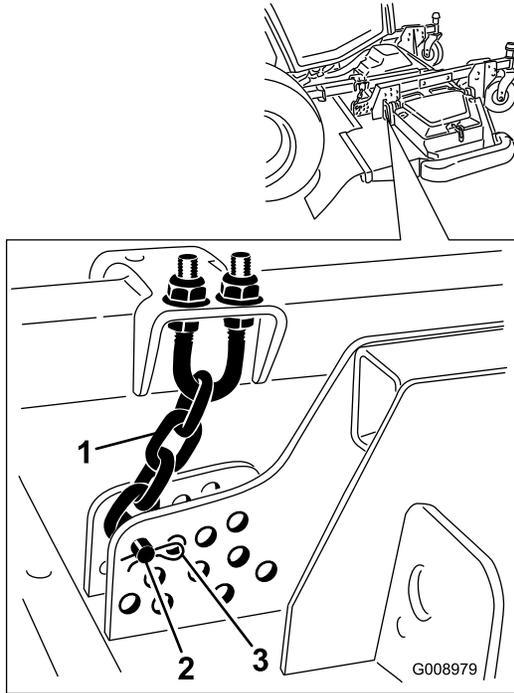

Figure 35
9. Remove the hairpin cotter and clevis pin securing the height-of-cut chains to the rear of the mower deck (Figure 35).